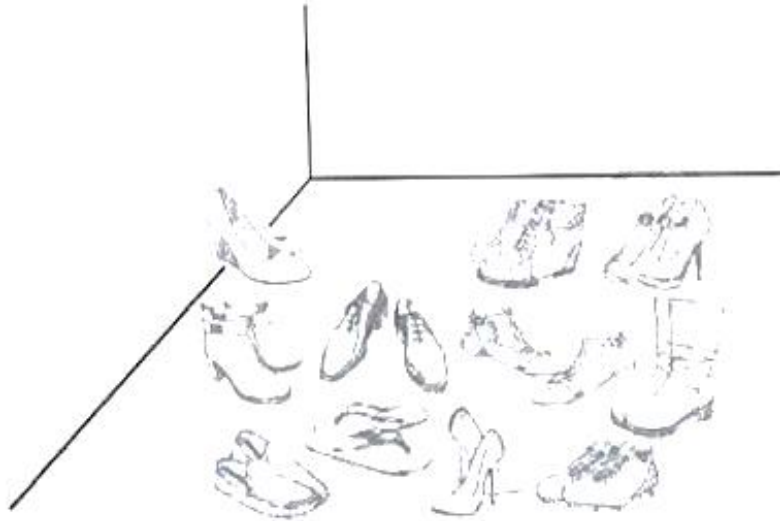

Figure 14
- (a) The situation shown in **Figure 14** is obtaining in your bedroom.